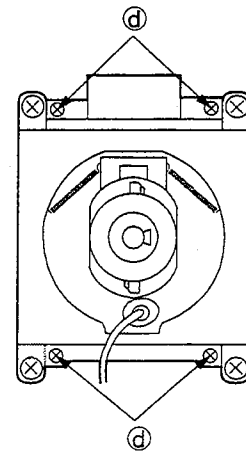

**Fig. 6-4**
**Note:** The CRT fixing screws should not be loosened nor should they be removed. [Fig. 6-4]